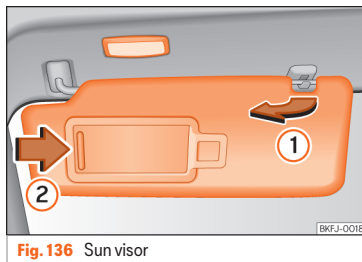

Fig. 136 Sun visor
- The sun visor can be pulled out of its mounting and turned towards the door »» **Fig. 136 1**.